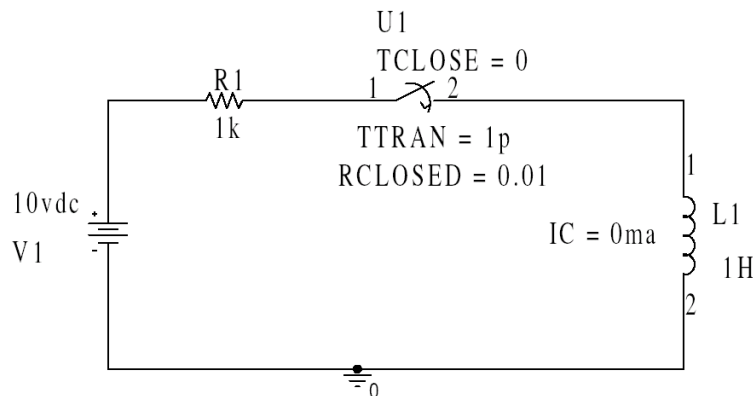

FIGURE 4.1
1.1.1. Construct the circuit shown in Figure 4.1 for both netlist and schematic. Set the initial current in the inductor to zero.